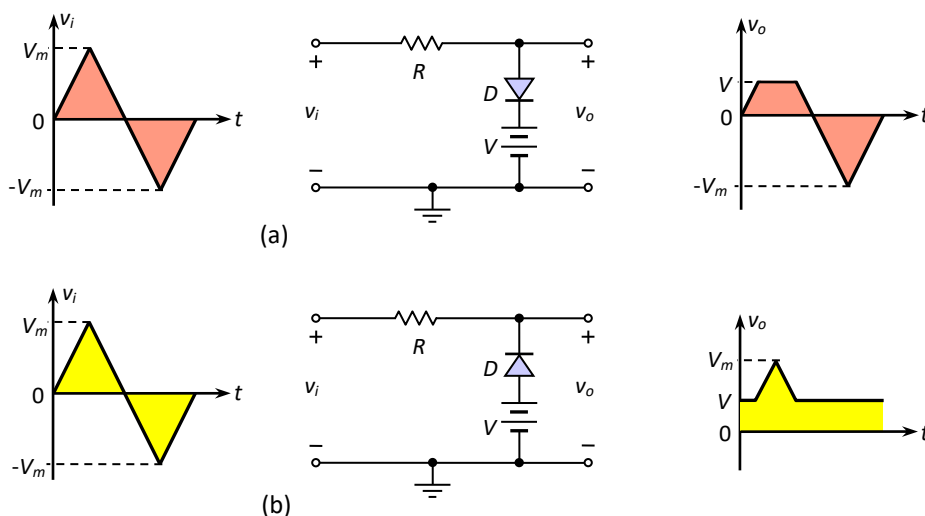

Fig.3-64: (a) Biased parallel positive clipper circuit, (b) Biased parallel negative clipper circuit
These clippers also use the diodes in parallel with the load resistor, but the diode is either forward biased or reverse biased by a voltage V which is less than the peak value of the input signal (V_m). There are five types of connection arrangements for biased parallel clippers. Only two of them are shown in Fig.3-64 and described here.
For the zero input voltage, that is, if the input terminals are short, the diode will be forward biased by the DC voltage V . Now, the biasing voltage (V) will appear at the output terminals. When $v_i > V$ (for positive half-cycle) the diode will be reversed biased and will behave as open circuit. No current will flow through the diode and the voltage drop across the resistor will be zero (if no load is connected at the output). Hence, the input voltage will appear at the output terminal. Thus, for $V_i = V$, the output will be V volts and for $V_i > V$ the output will follow the input as shown in the Fig.3-64(b). For the negative half-cycle, the diode will be forward biased (and short) and current will flow through the diode and all of the input voltage will be dropped across the resistor. But as the diode is forward biased and short the DC voltage, V , will be found across the output.